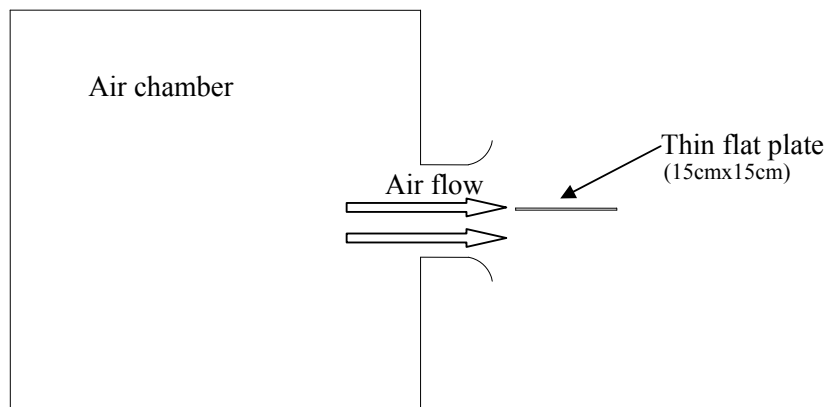

Figure Q4[b]
- [c] Water ($c_p=4180 \text{ J/kg.K}$) is utilized to cool hot oil ($c_p=2200 \text{ J/kg.K}$) in heat exchanger as shown in Figure Q4[c]. The tubes are thin with a diameter of 2.0cm. The length of each tube pass in the heat exchanger is 3m, and overall heat transfer coefficient is $340 \text{ W/m}^2\text{.K}$. Water flows through the tubes at a rate of 0.1 kg/s, and the oil through the shell at a rate of 0.2 kg/s. The oil and water inlet temperature are 180°C and 20°C respectively. Calculate: